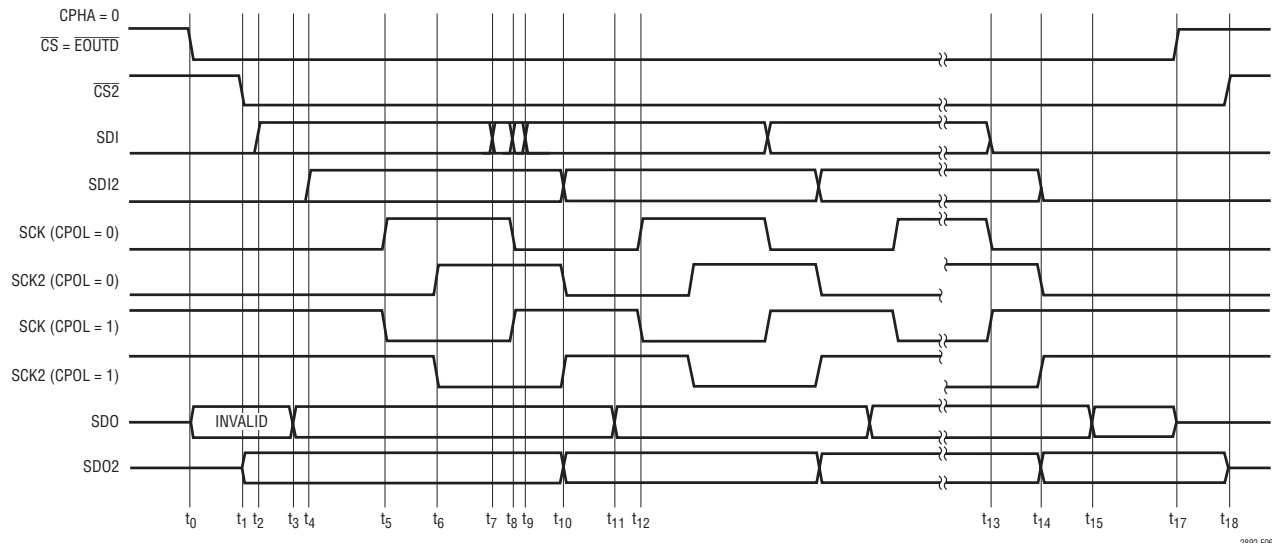
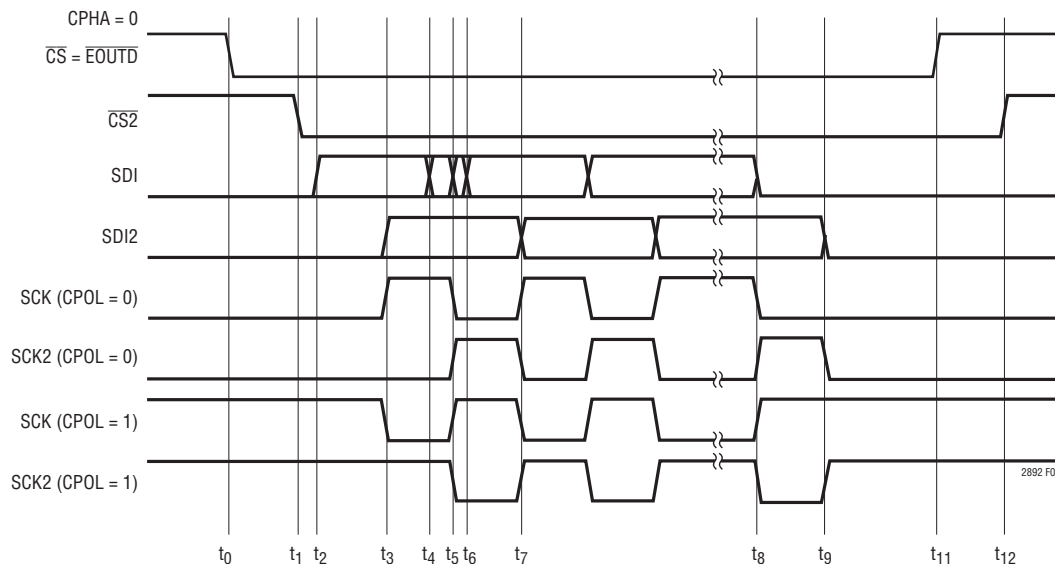

Figure 6. SPI Timing, Bidirectional, CPHA = 0
Figure 8. SPI Timing, Unidirectional, CPHA=0
The LTM2892-S provides an SPI compatible isolated interface. The maximum data rate is a function of the inherent channel propagation delays, channel to channel pulse width uncertainty, and data direction requirements. Channel timing is detailed in Figures 6 through 9 and Tables 2 and 3. The SPI protocol supports four unique timing configurations defined by the clock polarity (CPOL) and clock phase (CPHA) summarized in Table 1.
The maximum data rate for bidirectional communication is 4MHz, based on a synchronous system, as detailed in the timing waveforms. Slightly higher data rates may be achieved by skewing the clock duty cycle and minimizing the SDO to SCK setup time, however the clock rate is still dominated by the system propagation delays. A discussion of the critical timing paths relative to Figures 6 and 7 follows. For SPI communication INA = SCK, INB = SDI, INC
Maximum data rate for single direction communication, master to slave, is 8MHz, limited by the systems encoding/decoding scheme or propagation delay. Timing details for both variations of clock phase are shown in Figures 8 and 9 and Table 3.
- SDI and SCK setup data transition occur within the same data packet. Referencing Figure 6, SDI can precede SCK by up to 13ns ($t_7 \rightarrow t_8$) or lag SCK by 3ns ($t_8 \rightarrow t_9$) and not violate this requirement. Similarly in Figure 8, SDI can precede SCK by up to 13ns ($t_4 \rightarrow t_5$) or lag SCK by 3ns ($t_5 \rightarrow t_6$).